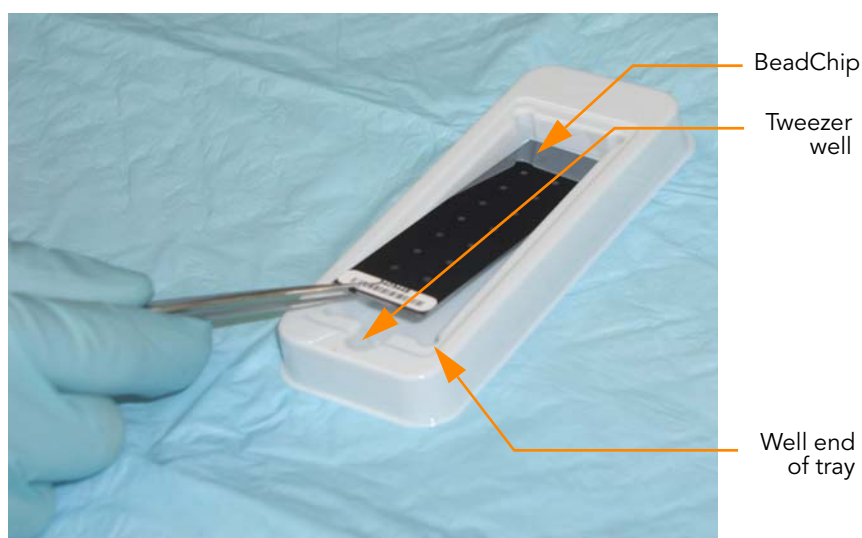

Figure 37 Placing BeadChip into BeadChip Wash Tray
3. Using tweezers, transfer the BeadChip face up into the BeadChip wash tray (Figure 37). The barcode should be at the well end. Use the well at the end of the wash tray to grip the BeadChip.